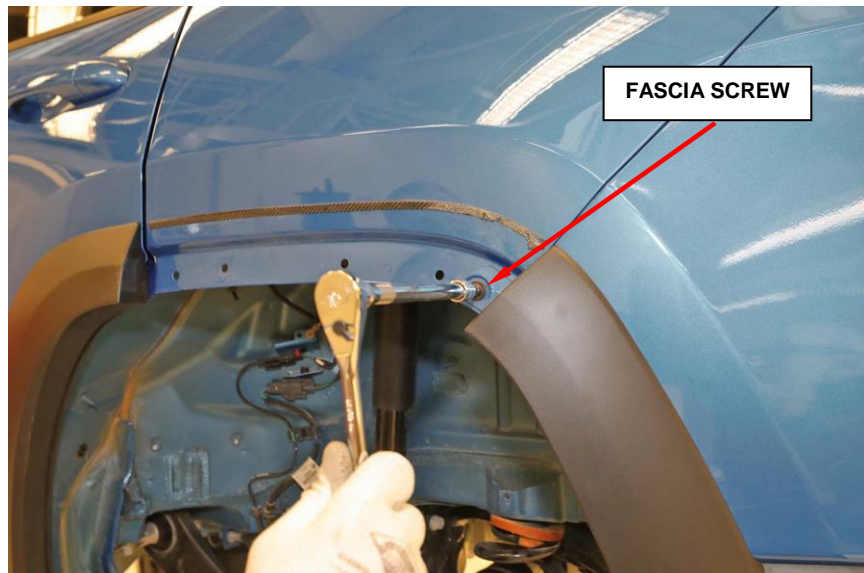

Figure 9 – Rear Fascia Screw
4. Remove the fascia screws exposed by removing the flares on each side of the vehicle (Figure 9).
22. Install the screws attaching the fascia to the quarter panels in the corners of the hatch opening and behind the flares (Figure 9 and 13).